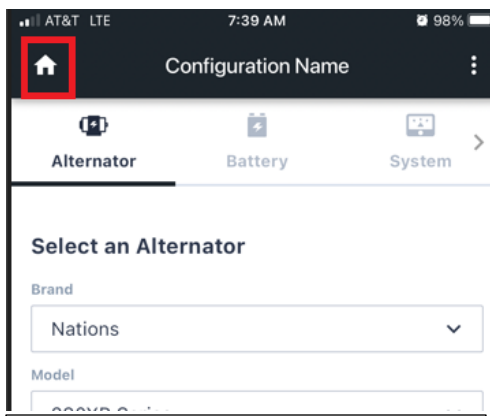

Figure 12A – Select Home button
- Input the settings shown below in Figures 12A, 12B, 12C, 12D, 12E, 12F & 12G.